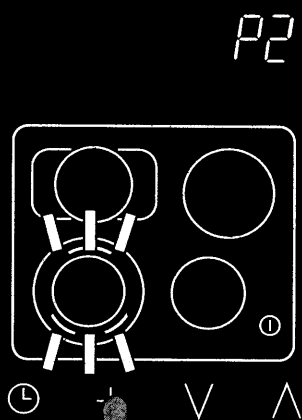

Fig. 4
- ... touch the symbol +. **P2** flashes on the timer display panel. The symbol for combination feature  flashes on the display of cooking zone 1 (front left) (fig. 4).